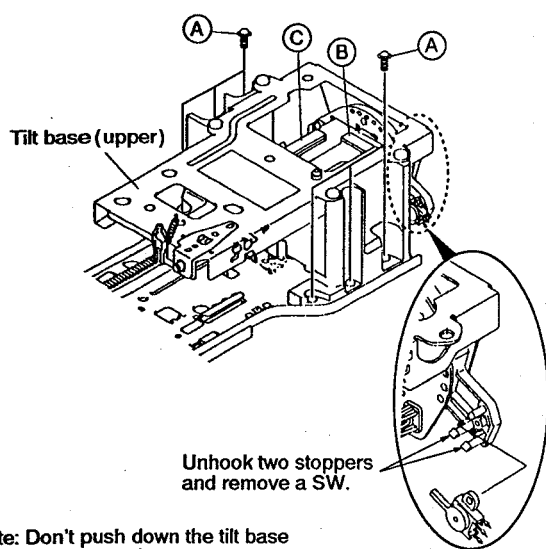
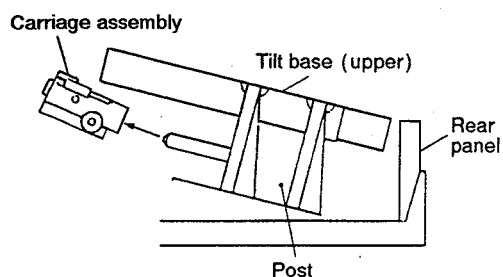

Fig. 6
Fig. 7
- ② Disconnect two connectors ② and ③ from the CNNB assembly to remove the flexible cable (Fig. 6).
- ③ Remove six screws ① from the post (L) and (R) to remove the tilt base.
- ④ Pull out the carriage assembly by setting the tilt base (upper) toward the upper (Fig. 7).
- ⑤ Unhook two stoppers and remove a SW.